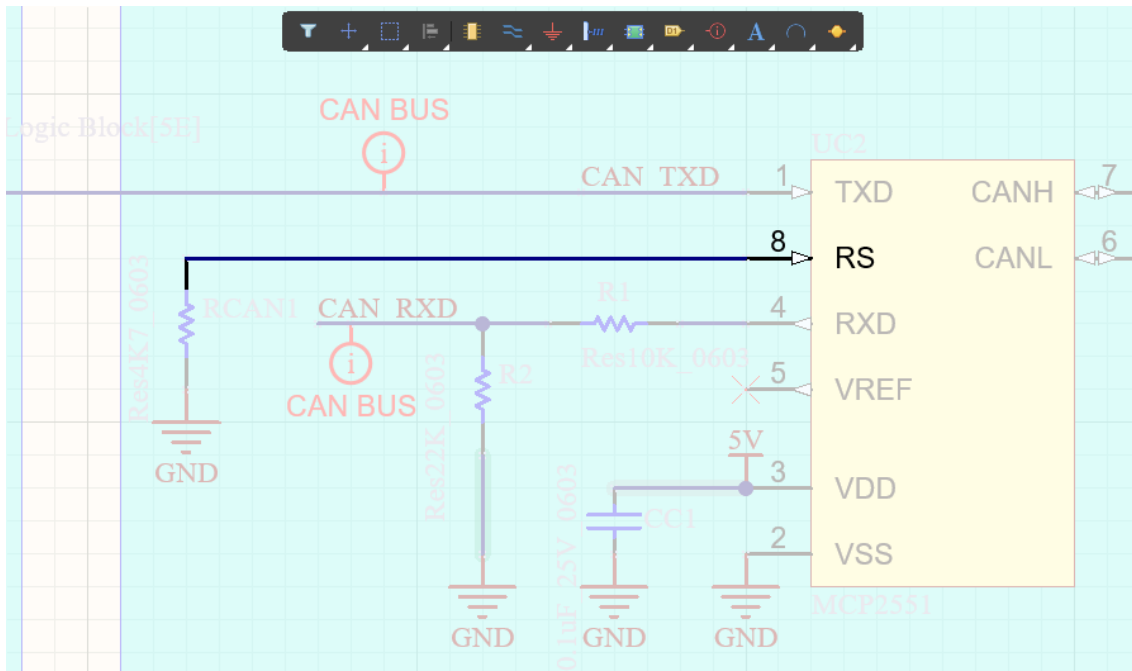

Figure 11. Input of an IC with no driving source
37. The next group of errors for Net <Net ##> has no driving source occurs when an input of an IC is connected to a passive component, as shown in Figure 11 below. (Net NetRCAN1\_2 has no driving source (Pin RCAN1-2, Pin UC2-8)).